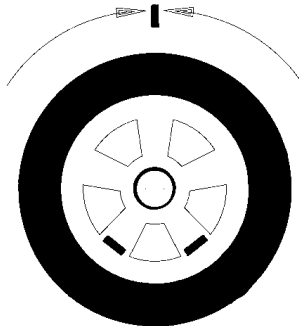

fig. 20
- 5) In the case that the *outside* weight is visible and must be divided between the two adjacent spokes, move the wheel so that one of the spokes is at the 12 o'clock position (fig. 20). *Holding the wheel in this position* press the full stop "." key.